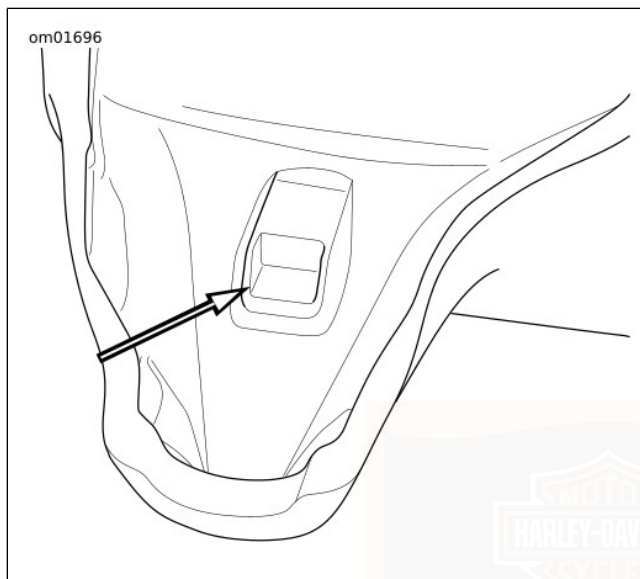

Figure 99. Seat Mounting Slot
1. See Figure 99. Firmly push front of seat downward and forward until slot engages tongue.
1. See Figure 99. Place seat on frame backbone.